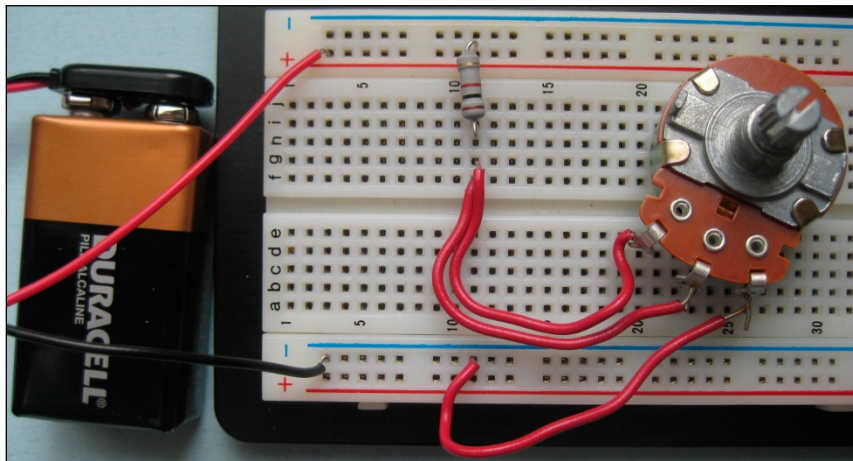

Figure 6-5: Your solderless breadboard makes the connections between components in this simple series circuit.
3. Build the circuit using Figure 6-5 as your guide.